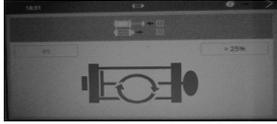

Figure 6
1. Attach the flowhead to the syringe as per figure 6.